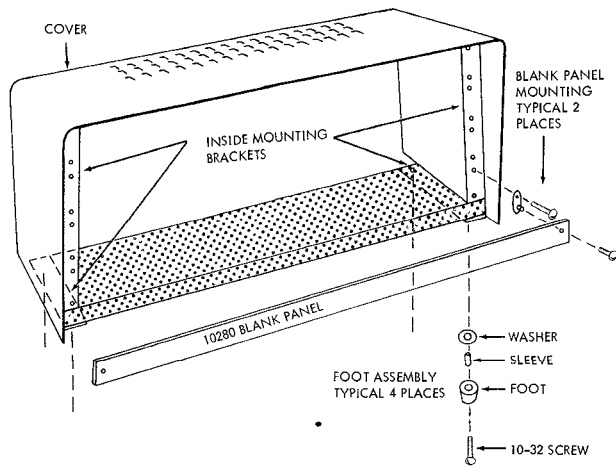

Figure 7. Installation of 42526 Cover Assembly
1. Attach four polyethylene feet with 8-32 screws supplied (see Figure 7).